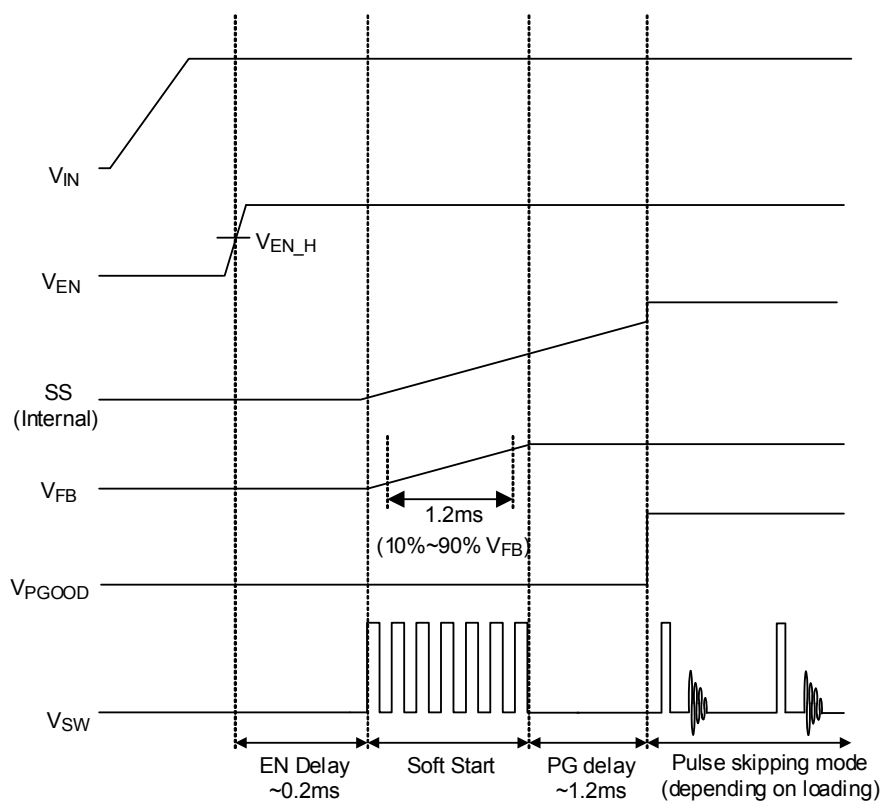

Figure 1. Power-Up Sequence Following Internal Soft-Start
The enable input (EN) has a logic-low level of 0.74V. When  $V_{EN}$  is below this level, the IC enters shutdown mode and supply current drops to less than 1 $\mu$ A. When  $V_{EN}$  exceeds its logic-high level of 0.92V, the IC is fully operational. When  $V_{EN}$  exceeds its logic-high level, the pre-regulator turns on first. The power-up sequence from EN logic high to PGOOD going high is shown in Figure 1.